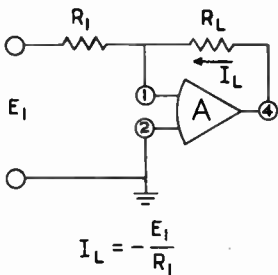

Fig. 19. Inverting amplifier as a linear current output device.
So far, we have considered voltage as the output of the inverting amplifier, but it also finds wide application as a current supplying device. This is accomplished by placing the load in the feedback loop as in Fig. 19. Since pin (1) is ground potential,